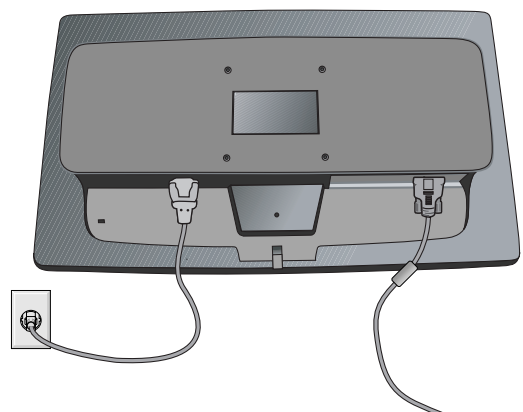

Figure R.2
4. Connect the AC cord to the back of the monitor (**Figure R.2**).